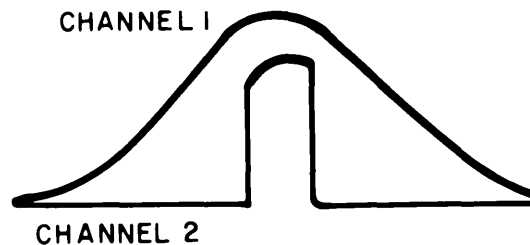

Figure 5-8.
- d) Adjust Resistor R2 on board A4A4 (it is marked "10 kHz" on the board) until the IF window covers the center of the pulse on Channel 1. See Figure 5-8.